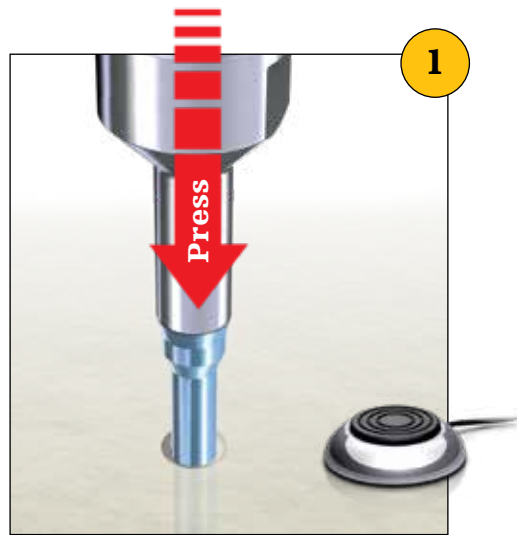
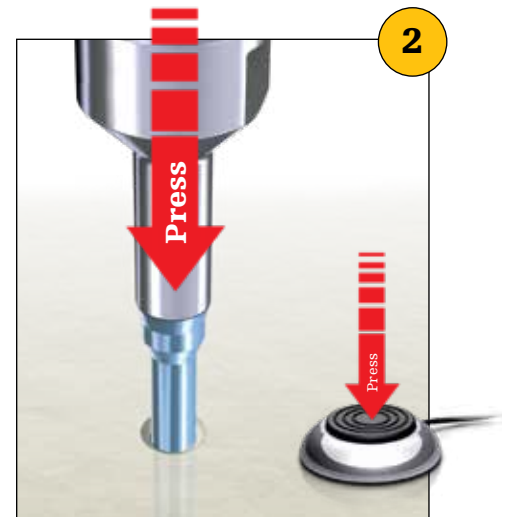
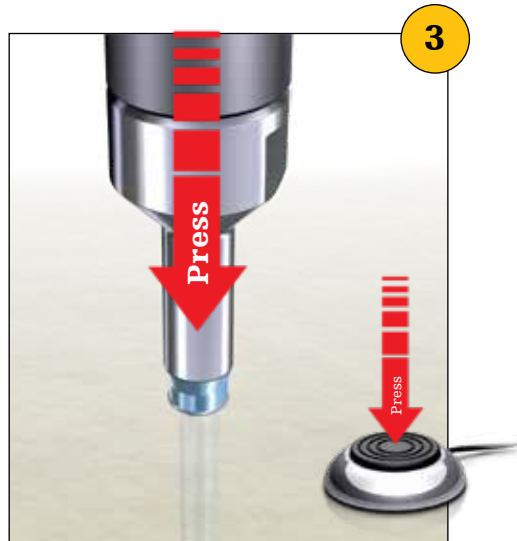
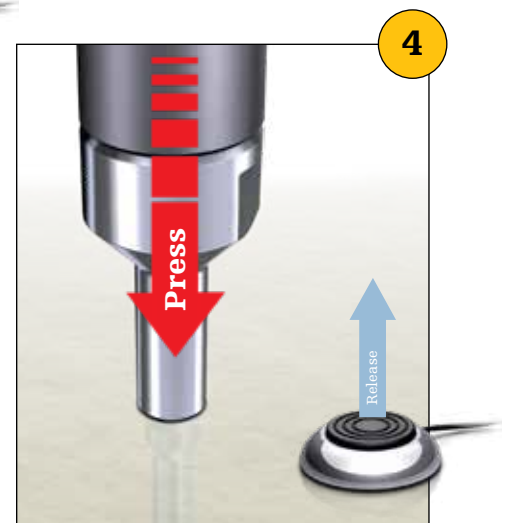

Fig. 32
Fig. 33
Fig. 34
Fig. 35
Apply axial force (Fig. 32) and activate the ultrasound by keeping the footswitch pressed (Fig. 33). Maintain the force (Fig. 34) to fully advance the Bioresorbable Pin into the bone until the implant head mechanically stops below the bone surface (Fig. 35).
Release the footswitch to stop the ultrasound when the full depth is reached and the Bioresorbable Pin is fully disappeared in the bone (Fig. 35). The SonicFusion process automatically stops after 6 seconds.
- **Axial force before starting the ultrasound process is necessary to ensure a successful liquification process (Fig. 32)!**